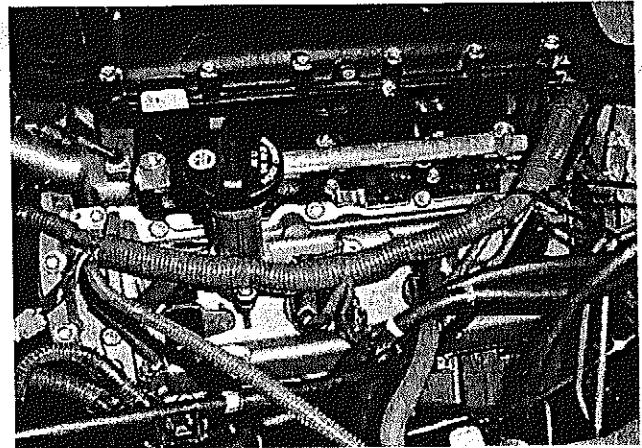

Figure 29
13. Install 4 insulators, 4 injectors and the driver's-side fuel delivery pipe (Figure 29). Use the factory fuel delivery pipe nuts. Torque to 7.5 N-m (66 in.-lbf).